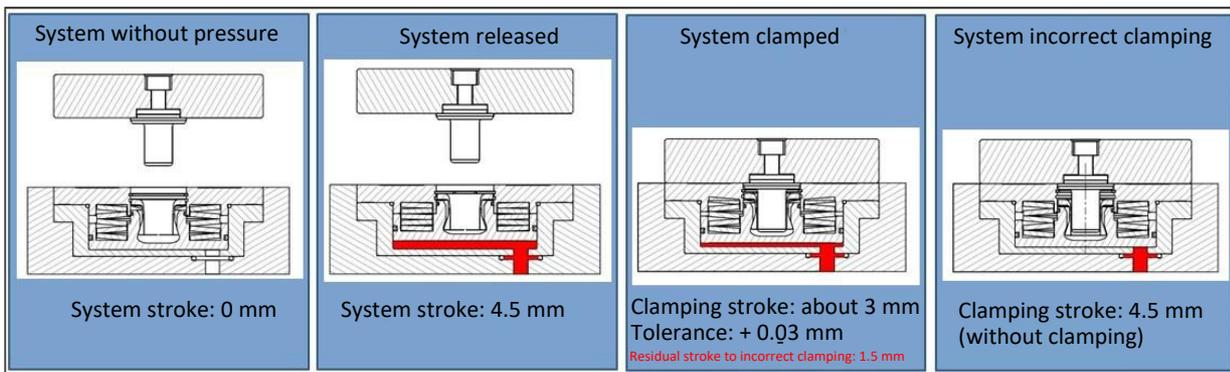

Figure 5 – Evaluable clamping states
During a clamping process, the oil quantity flows back again due to the spring force acting on the piston. If a clamping system is correctly clamped, it does not return to the home position because the piston grips the clamping bolt via the collet and tightens it with the spring force before reaching the home position. If a clamping system is not correctly clamped (incorrect clamping), more oil flows back from the clamping system because the piston does not grip the clamping bolt via the collet and returns to the home position. Clamping without a clamping bolt corresponds to the same situation as incorrect clamping. See Figure 5 for illustration.
1. Feed the pressure medium through the opening in the housing under the pull piston (Figure 5/2). The pull piston is then at the upper stop to initiate a clamping process. The pull piston (Figure 5/2), which encloses the collet (Figure 5/1), allows it to open through a release.
2. Insert the clamping bolt (Figure 5/4) into the collet.
3. Drain the pressure medium through the opening in the housing under the pull piston (Figure 5/2). The pull piston (Figure 5/2) moves downwards due to the force of the spring assembly (Figure 5/3). The collet (Figure 5/1) is placed against the pull piston (Figure 5/2).
1. Feed the pressure medium through the opening in the housing under the pull piston (Figure 5/2). The pull piston (Figure 5/2), which encloses the collet (Figure 5/1), allows it to open through the release.
2. Lift the clamping bolt (Figure 5/4) out of the collet (Figure 5/1) .
4. Either insert another clamping bolt into the collet and clamp again, or if not required, drain the pressure medium through the opening in the housing under the pull piston (Figure 5/2). Only pressurize the clamping system for the changeover process. Do not leave the clamping system under permanent pressure.